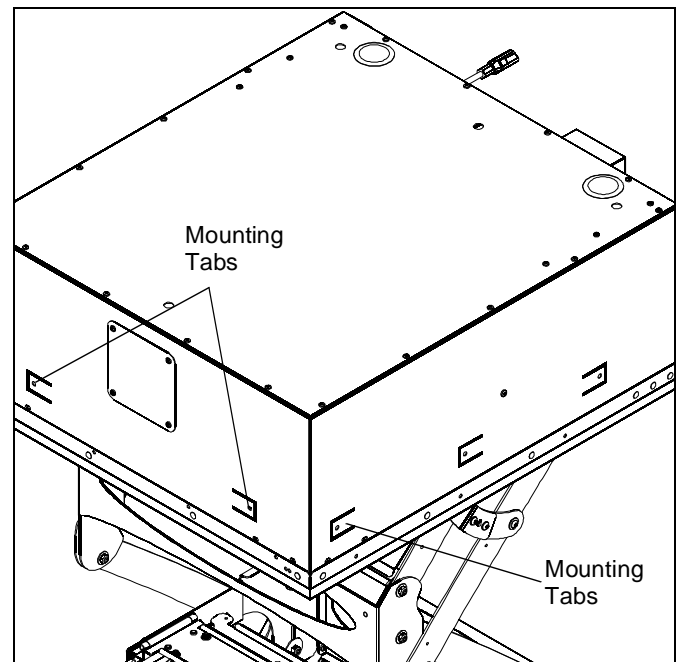

Figure 10
1. Use 1/4" x 1" (minimum) Grade 2 lag screws (not provided) to secure SL236FD to the joists or wood framework, using the mounting tabs located on the sides of the SL236FD housing. (See Figure 10).